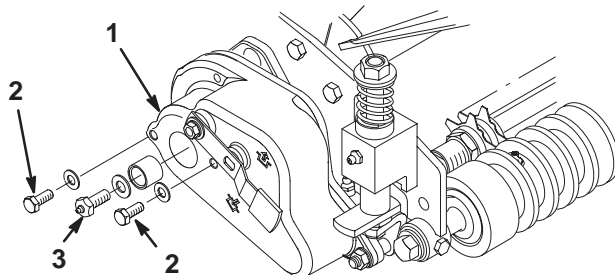

Figure 1
1. Remove the 2 screws and lock washers from the groomer drive cover (Fig. 1). Also remove the screw with the grease fitting or relief valve, the washer, and the spacer.